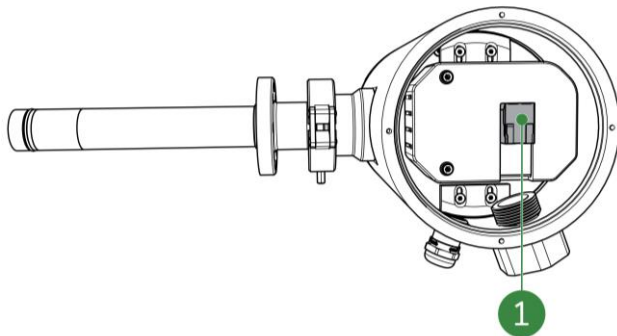

Figure 5-19: SDM ECO ethernet connector
10. Connect the ethernet cable to the SDM ECO ethernet connector (Figure 5-19, pos. 1).